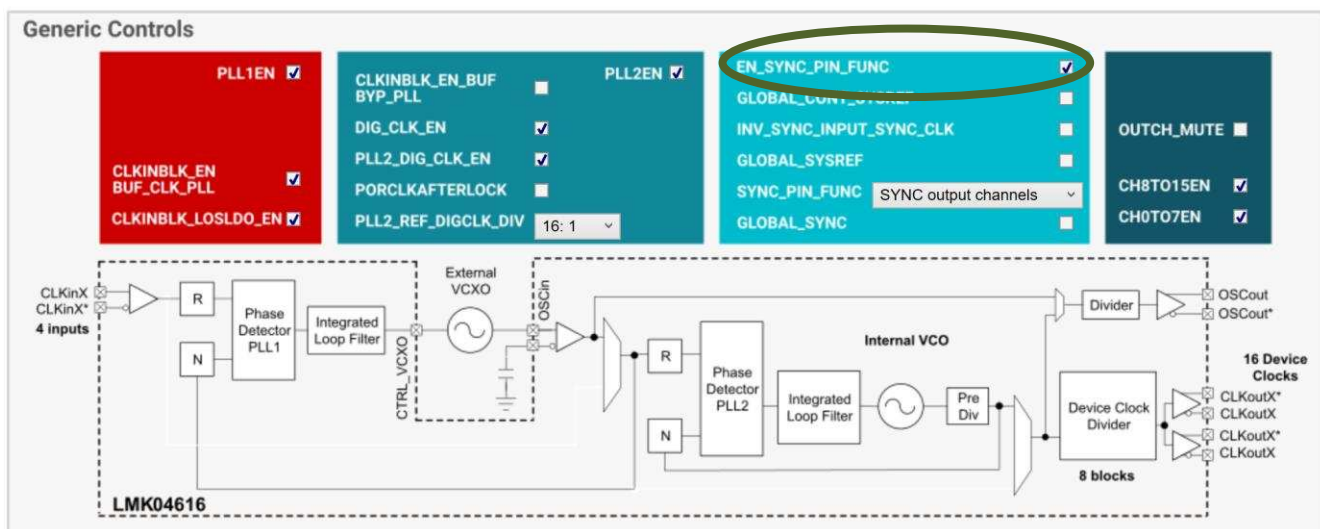

Figure 7. TICSpro Setting for SYNC Pin Function Enable
- Go to Generic Tab and set the EN_SYNC_PIN_FUNC as Figure 7 shows.